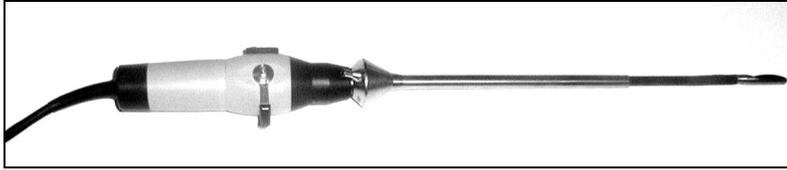

Fig. 7. Type 8666 with biopsy attachment UA1249 attached
3. To do this push the attachment firmly into position until it "clicks" into place. The biopsy attachment is now locked onto the transducer shaft and ready to host the flexible biopsy kit. (See Fig. 7.)